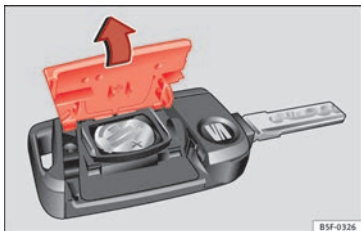

Fig. 125 Vehicle key: opening the battery compartment
- Remove the cover from the back of the vehicle key » Fig. 125 in the direction of the arrow » ①.
- Fit the cover as shown » Fig. 125, pressing it onto the vehicle key casing in the opposite direction to that shown by the arrow until it clicks into place.